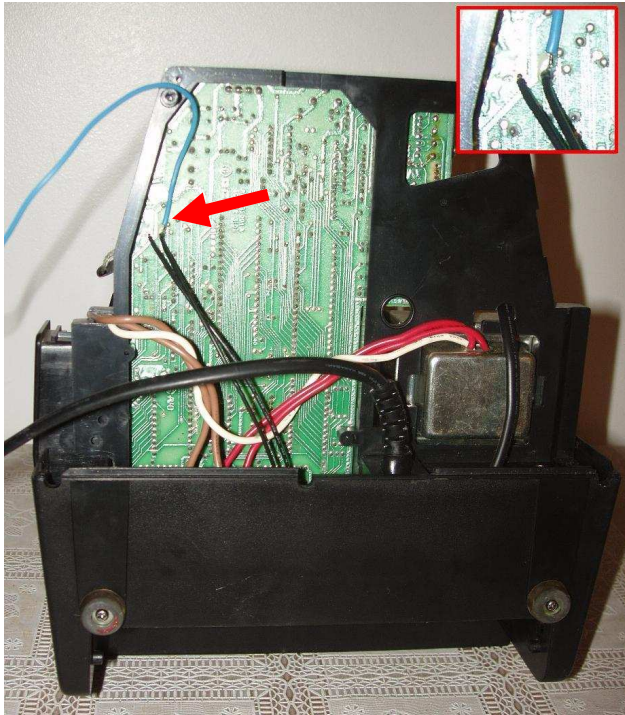

Fig. 2 Underside of Vectrex (screen down) with rear cover removed showing the end of the (blue) reset wire soldered on the underside of the logic board
Only a single wire is required to be soldered to the Vectrex logic board PCB, as the ground signal is already present on the Vectrex cartridge connector and connects directly to the VecDev cartridge. Two wires from the reset switch mounted on the front of the Vectrex consoled should be seen to be soldered to two pads on the logic board PCB (see black wires in figure 2). (1) Solder the reset signal wire to the right hand side pad connecting to one of the black wires. -Take care not to short out any